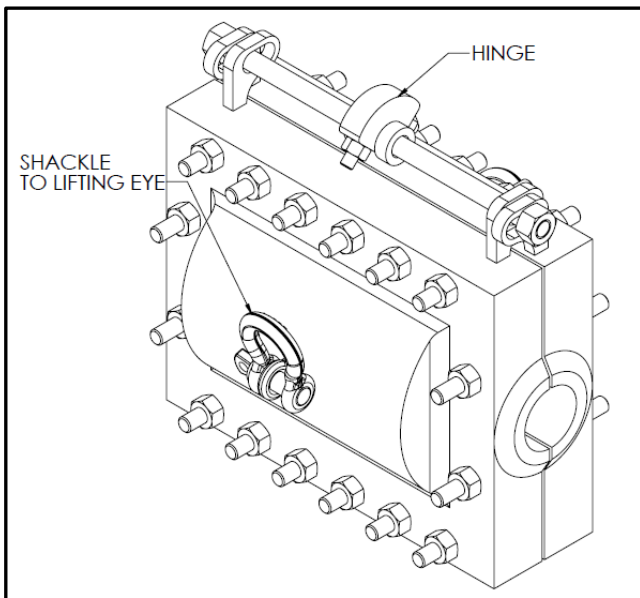
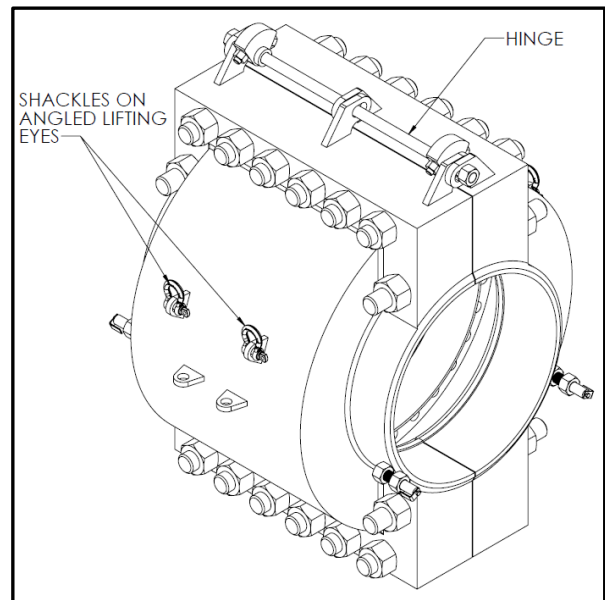

Figure 6
Figure 7
1. Orient the Flange Repair Split+Sleeve and remove all studs and nuts as shown in Figures 6 & 7.
2. Attach shackles to the lifting eyes. Smaller fittings typically only have lifting eyes in the center of the shell as shown in Figure 6. Larger diameter fittings have additional lifting eyes on an angle as shown in Figure 7. For larger diameter fittings, the angled lifting eyes are to be used during installation with hinges.